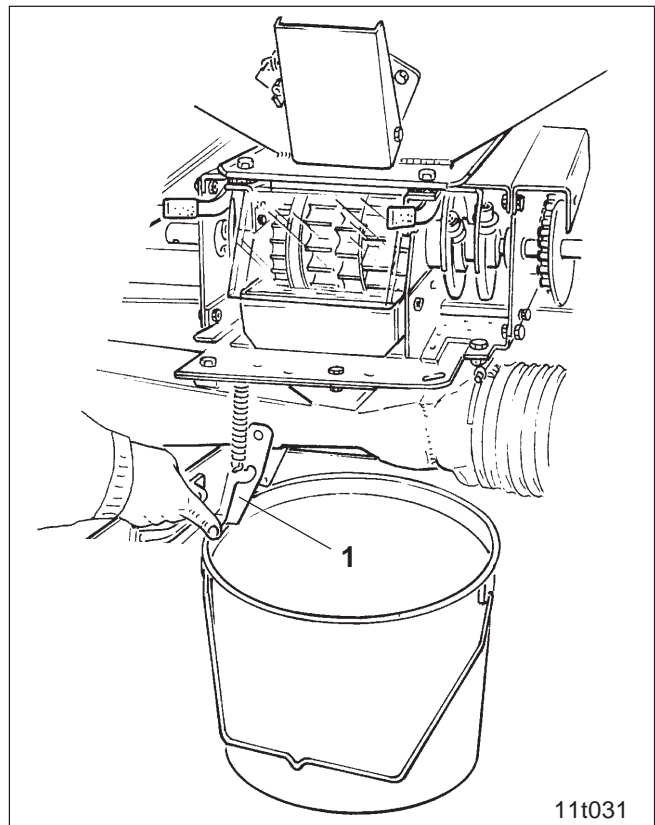

Fig. 17.2
- Place a collecting bucket underneath each metering unit and open the injector sluice flap (Fig. 17.2/1) on every metering unit.
- Shut injector sluice (Venturi) flap (Fig. 17.2/1).